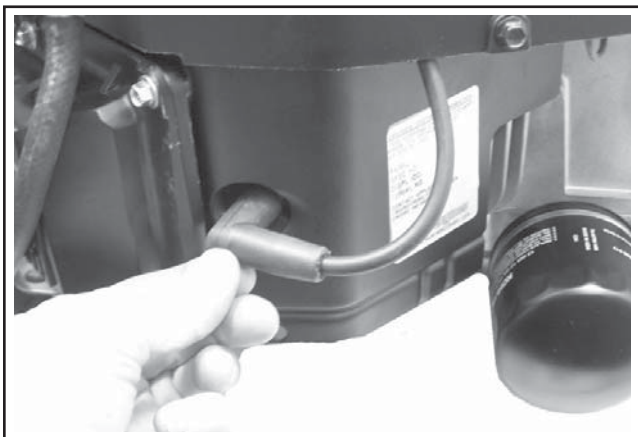

Figure 10-90. Connect Spark Plug Leads.
1. Connect the leads to the spark plugs. See Figure 10-90.